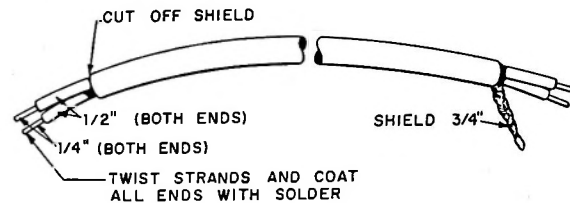

FIGURE 13. 2-CONDUCTOR CABLE
- Prepare a 7½" and a 9" length of the 2-conductor cable as shown in Figure 13.